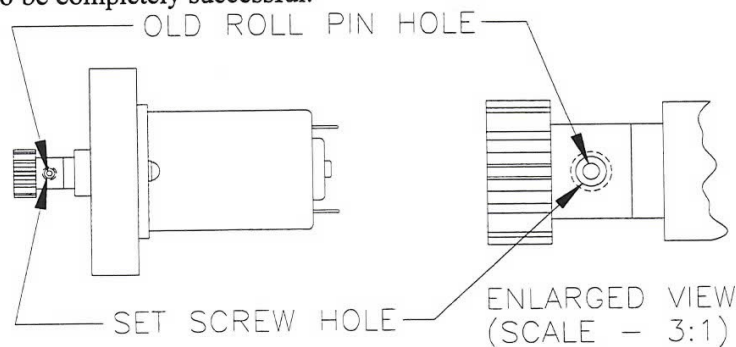

FIGURE 9
10. Remove the small tube of LOCTITE 620 (P/N 20-10210), the BRASS PINION GEAR (P/N 02-5186), and the BRASS TIPPED DOG POINT SET SCREW (P/N 4006-01194-02) from the repair kit. Apply the entire amount of LOCTITE 620 from the tube, on to the motor shaft, distributing it uniformly on the entire shaft. With a sliding and twisting motion, slowly install the BRASS PINION GEAR on the shaft, twisting and sliding back and forth several times to evenly distribute the LOCTITE 620. Make sure that the tapped hole in the pinion gear is lined up with the countersunk through hole left by the old roll pin. (See Fig. 9) Now install the BRASS TIPPED DOG POINT SET SCREW and tighten down securely, making sure that the top of the screw is flush or below flush with the hub of the pinion and that the brass tip of the screw is seated in the old roll pin hole. Carefully wipe off all excess LOCTITE 620, so as not to get any in the motor or gear teeth. Allow this assembly to dry for 24 hours before re-installing into mini playfield assembly and operating. It is very important that the full dry time is allowed in order for the repair to be completely successful.